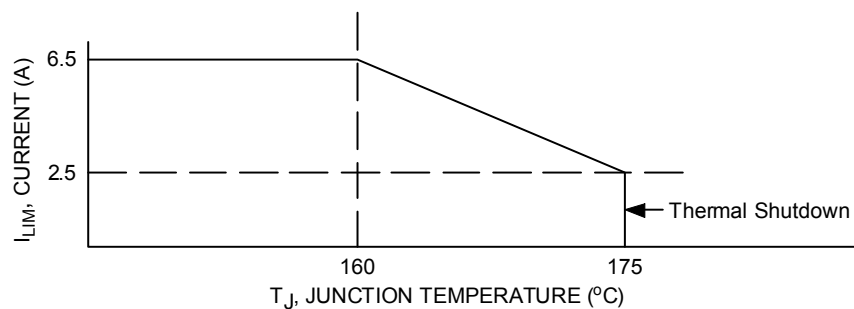
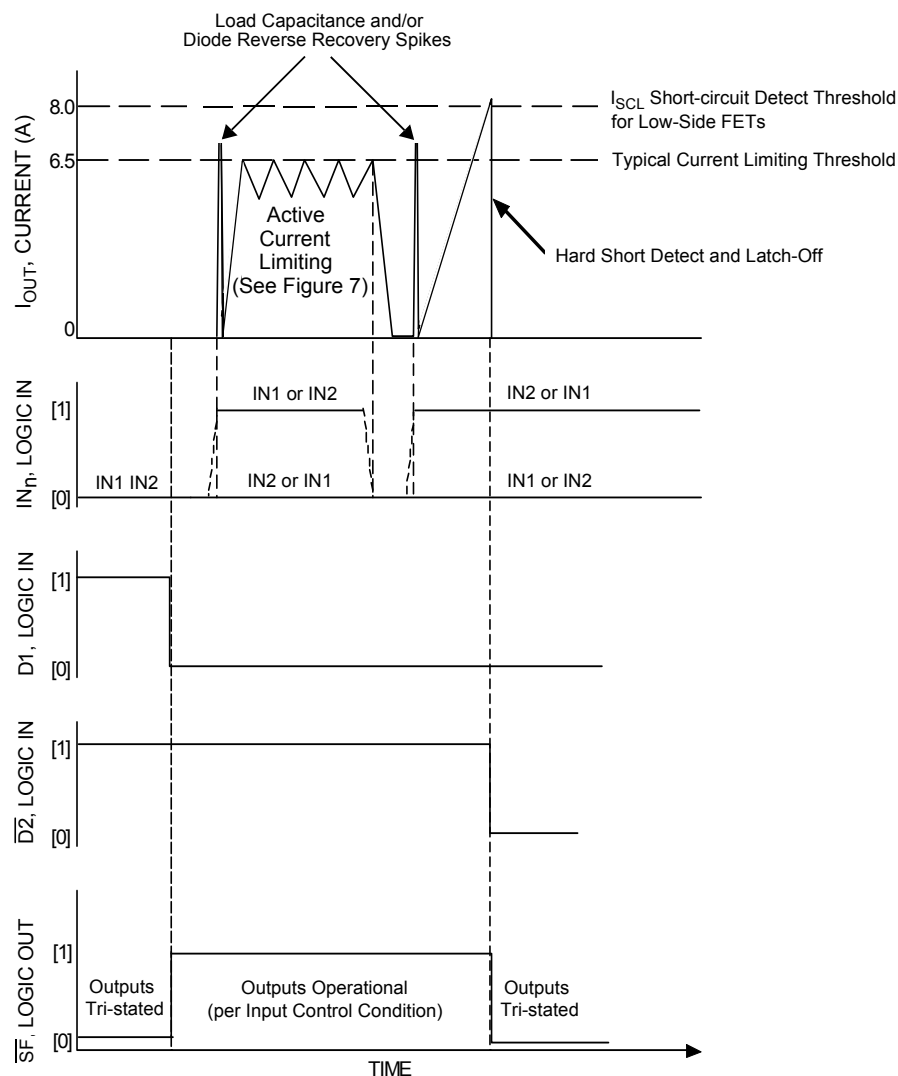

Figure 7. Active Current Limiting Versus Temperature (Typical)
Figure 8. Active Current Limiting Versus Time
26. Increasing currents will become limited at  $I_{\text{LIM}}$ . Hard shorts will breach the  $I_{\text{SCH}}$  or  $I_{\text{SCL}}$  limit, forcing the output into an immediate tri-state latch-OFF. See Figures 8 and 9, page 10. Active current limiting will cause junction temperatures to rise. A junction temperature above  $160^{\circ}\text{C}$  will cause the active current limiting to progressively “fold-back” (or decrease) to 2.5 A typical at  $175^{\circ}\text{C}$  where thermal latch-OFF will occur. See Figure 7, page 9.
The current limiting threshold value is dependent upon the device junction temperature. When  $-40\text{ }^{\circ}\text{C} < T_J < 160\text{ }^{\circ}\text{C}$ ,  $I_{LIM}$  is between 5.2 A and 7.8 A. When  $T_J$  exceeds  $160\text{ }^{\circ}\text{C}$ , the  $I_{LIM}$  current decreases linearly down to 2.5 A typical at  $175\text{ }^{\circ}\text{C}$ . Above  $175\text{ }^{\circ}\text{C}$  the device overtemperature circuit detects  $T_{LIM}$  and overtemperature shutdown occurs (see Figure 7, page 9). This feature allows the device to remain